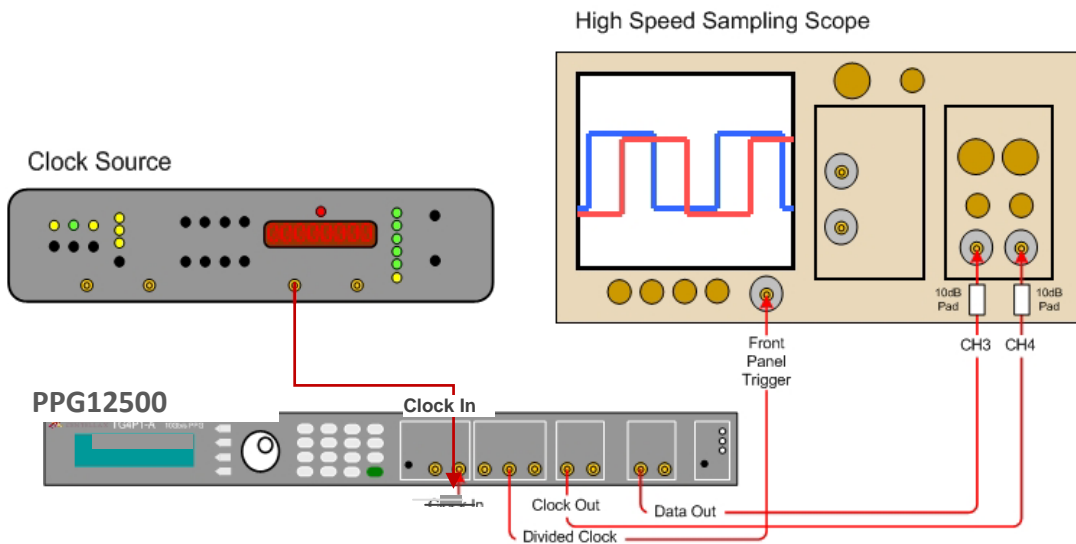

Figure 1. Installation setup
- 3 Connect the PPG12500 to a clock source and high speed sampling scope as shown in Figure 1.